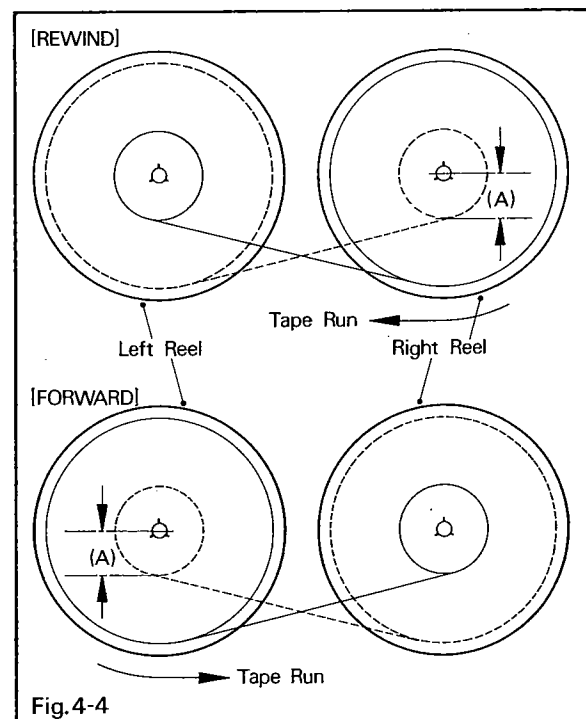

Fig. 4-4
- Mount the tape-loaded reel on the LEFT REEL TABLE (2) and the empty reel on the RIGHT REEL TABLE (32), fasten the clamps and thread the tape.
- Depress the FAST FORWARD BUTTON (47).
- Let the tape on the LEFT REEL TABLE unwind until the tape left on the reel is about 80mm across, then depress the STOP BUTTON (45). (See Figure 4-4 "FORWARD".) Check that the LEFT REEL TABLE and the RIGHT REEL TABLE stop synchronously 0.5 to 1.0 second after the STOP BUTTON is depressed. (Use the stop watch.) If the LEFT REEL TABLE stops after the RIGHT REEL TABLE, or vice versa, or if there is excessive tape slack or tension while the TABLES are coming to a halt or when the TABLES finally stop, repeat the above-mentioned adjustments of the BRAKE BAND GUIDE, BRAKE SOLENOID and BRAKE BAND CONNECTOR STOPPERS. Further, if the TABLES do not stop between 0.5 and 1.0 second after the STOP BUTTON is depressed, adjust the braking torque referring to the following section "ADJUSTMENT OF BRAKING TORQUE."
5. When the adjustment of the braking time in the FAST FORWARD operation is completed, depress the REWIND BUTTON (44).
6. Let the tape on the RIGHT REEL TABLE unwind until the tape left on the reel is about 80mm across, then depress the STOP BUTTON (45). (See Figure 4-4 "REWIND".) Check that the LEFT REEL TABLE and the RIGHT REEL TABLE stop synchronously 0.5 to 1.0 second after the STOP BUTTON is depressed. (Use the stop watch.) If the LEFT REEL TABLE stops after the RIGHT REEL TABLE, or vice versa, or if there is excessive tape slack or tension while the TABLES are coming to a halt or when the TABLES finally stop, repeat the above-mentioned adjustments of the BRAKE GUIDE, BRAKE SOLENOID and BRAKE BAND CONNECTOR STOPPERS. Further, if the TABLES do not stop between 0.5 and 1.0 second after the depression of the STOP BUTTON, adjust the braking torque referring to the following section "ADJUSTMENT OF BRAKING TORQUE."